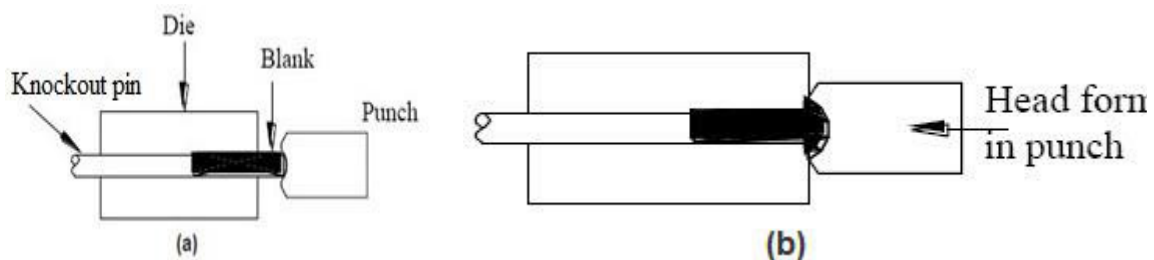

Figure. 4.16.6: Rivet head formation.
1. Keep the blank in the die as shown in **Figure 4.16.6 (a)** below and position the knockout pin depending on the length of rivet required. The punch should have the negative shape of the rivet head as shown.
2. Apply force through the punch. At the end of the stroke, the head is formed as shown in **Figure 4.16.6 (b)**.